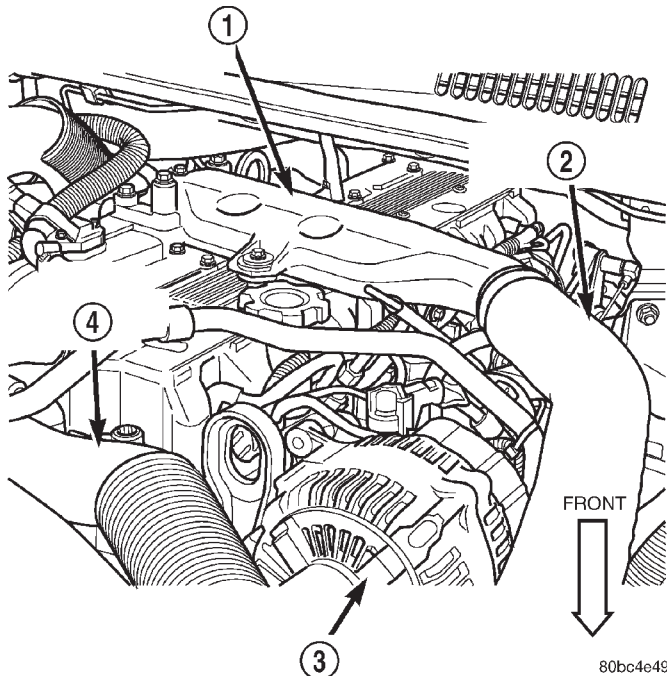
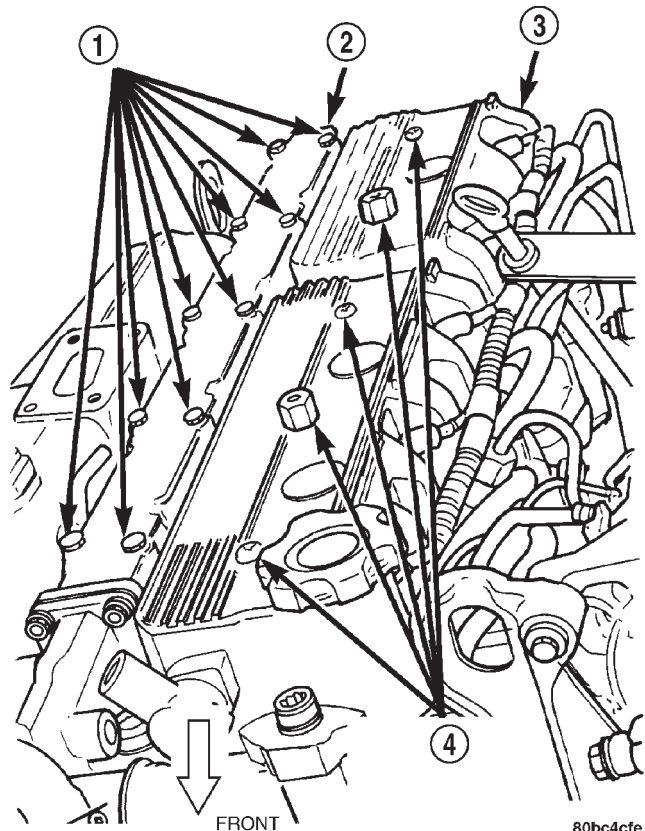
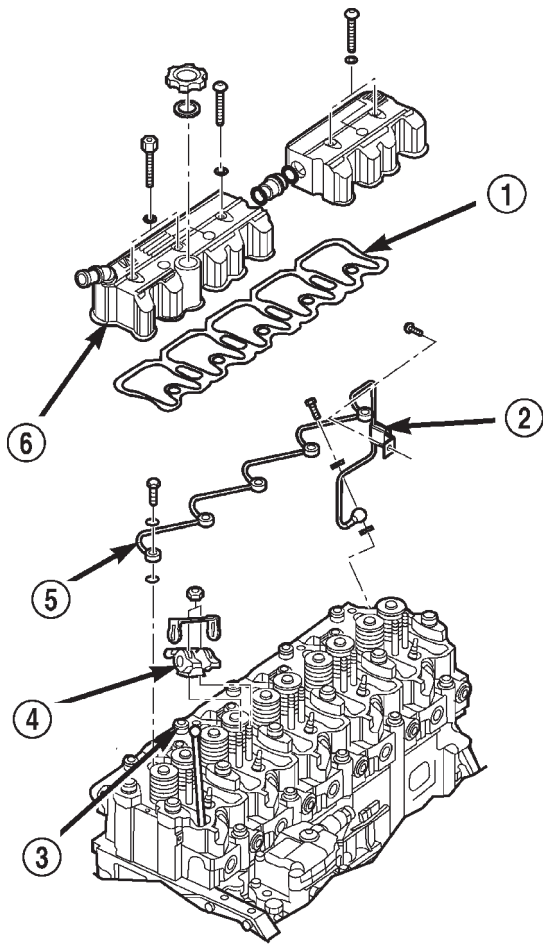

Fig. 46 Intake Manifold Elbow
Fig. 47 Cylinder Head Cover
Fig. 48 Cylinder Head Cover Removal
(5) Remove the low pressure refrigerant line retaining bolt and remove the line from the compressor. Cover both openings.
(6) Remove the left engine mount throughbolt nut. Do not remove the bolt at this time.
(7) Lower the vehicle on the hoist.
(8) Remove the intake manifold elbow inlet hose (Fig. 46).
(9) Remove the intake manifold elbow (Fig. 46).
(10) Remove the refrigerant line support bracket retaining bolt from the cylinder head cover and position the refrigerant line out of the way.
(11) Disconnect the (5) glow plug electrical connectors and position the wire harness out of the way.
(12) Remove the Crankcase breather hose from the front of the cylinder head cover.
(13) Remove the cylinder head cover retaining bolts (Fig. 47) (Fig. 48).
(14) Remove the fuel filter / water separator retaining nuts and position the filter assembly out of the way.
(15) Position a jack under the oil pan. Make sure to place a piece of wood between the jack and the oil pan.
(17) Using the jack, lower the engine assembly until the cylinder head cover can be removed from the vehicle.
- (1) Install the cylinder head cover and gasket. Torque the bolts to 15 N·m (133 in. lbs.) (Fig. 47) (Fig. 48).
- (2) Using the jack, raise the engine assembly until the left engine mount throughbolt can be installed.
- (3) Remove the jack and install the fuel filter / water separator.
- (4) Connect the crankcase breather hose to front of cylinder head cover.
- (5) Connect the (5) glow plug electrical connectors (Fig. 47).
- (6) Position the refrigerant line and install the retaining bolt.
- (7) Install the intake manifold elbow (Fig. 46).
- (8) Install the intake manifold elbow inlet hose (Fig. 46).
- (9) Raise the vehicle on the hoist.
- (10) Install the left engine mount throughbolt nut. Torque the nut to 61 N·m (45 ft. lbs.).
- (11) Install the low pressure refrigerant line and retaining bolt. Torque the bolt to 28 N·m (21 ft. lbs.). Be certain the sealing o-ring is well lubricated and free of tears.
- (12) Install the front splash shield.
- (13) Lower the vehicle on the hoist.
- (14) Connect the negative battery cable.
- (15) Evacuate and charge the refrigerant system. Refer to Group 24, Heater and Air Conditioning for the procedure.
- (16) Start the engine and check for leaks.